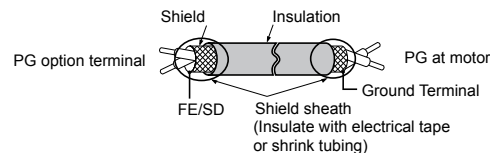
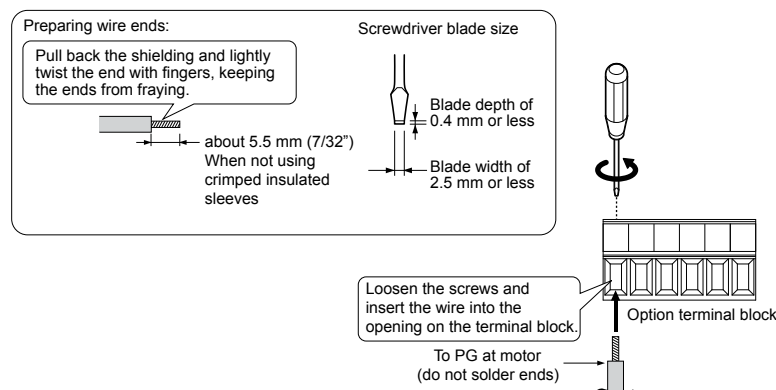

Figure 8.6 Preparing Ends of Shielded Cable
Figure 8.7 Preparing and Connecting Cable Wiring
2. There are two screw holes on the drive for use as ground terminals (H). When connecting three options, two ground wires will need to share the same drive ground terminal.
4. Prepare and connect the wire ends as shown in Figure 8.6 and Figure 8.7. Refer to Wire Gauges and Tightening Torques of PG-X3 Option on page 511 or Refer to Wire Gauges and Tightening Torques of PG-X3 Option on page 511 to confirm that the proper tightening torque is applied to each terminal. Take particular precaution to ensure that each wire is properly connected and that wire insulation is not accidentally pinched into electrical terminals.